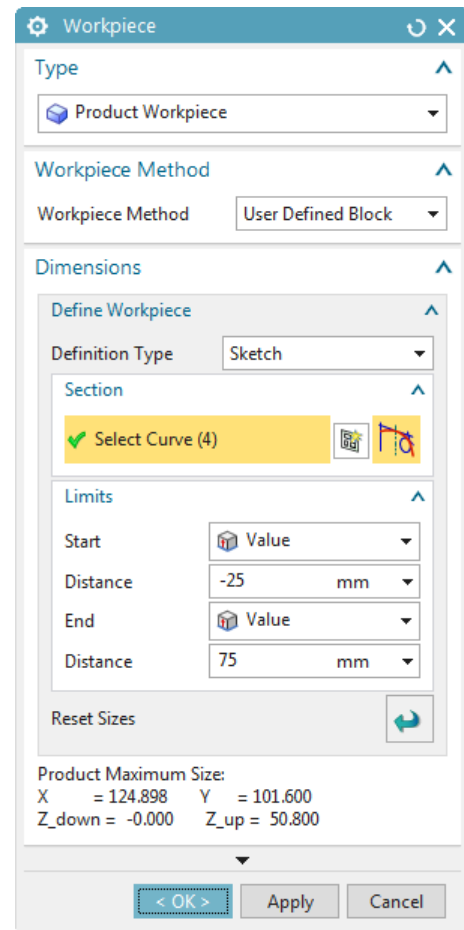

Figure 16-104 The Workpiece dialog box
1. Choose the **Workpiece** tool from the **Main** gallery of the **Mold Wizard** tab; the **New Iray + Ray Traced Studio Rendering** window is displayed. Choose the **OK** button; the **Workpiece** dialog box is displayed, refer to Figure 16-104. By default, the **Product Workpiece** option is selected in the **Type** drop-down list of the **Type** rollout and the **User Defined Block** option is selected in the **Workpiece Method** drop-down list. Refer to Figure 16-105 for the size of the core and cavity insert.